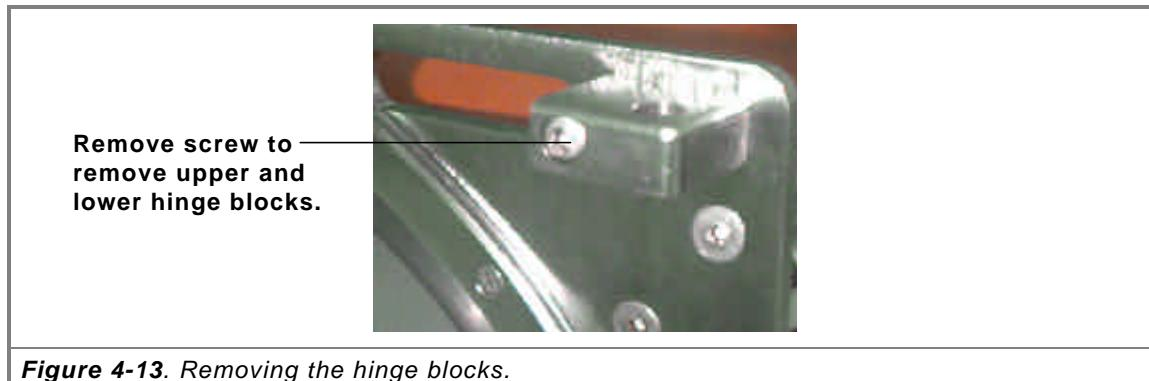

Figure 4-13. Removing the hinge blocks.
11. Remove the top and bottom door hinge blocks. See Figure 4-13.